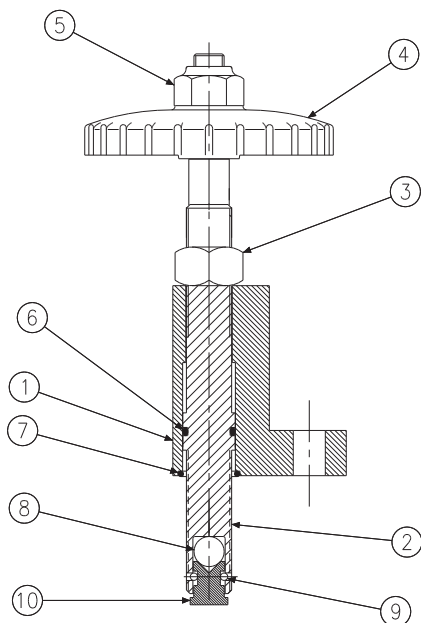

Figure 8
| | Max Vol. Handwheel (Fig. 8) | S22-12915 | S22-12915 | — | 1 |
PARTS LIST FOR FIGURE 8
1. See Fig. 8. Remove the two screws holding the bracket (1) to the control cap.
3. Remove nut (5) and handwheel (4) from the stop screw (2).
4. Remove nut (3). Screw (2) may now be slipped through the bracket (1) to examine parts and to replace O-ring (6).
5. Seat (10) pivots and rotates on ball (8) and is retained by pressing two balls (9) into screw (2). Replace assembly if damaged.
| | Max Vol. Handwheel (Fig. 8) | S22-12915 | S22-12915 | — | — | 1 | 1 |